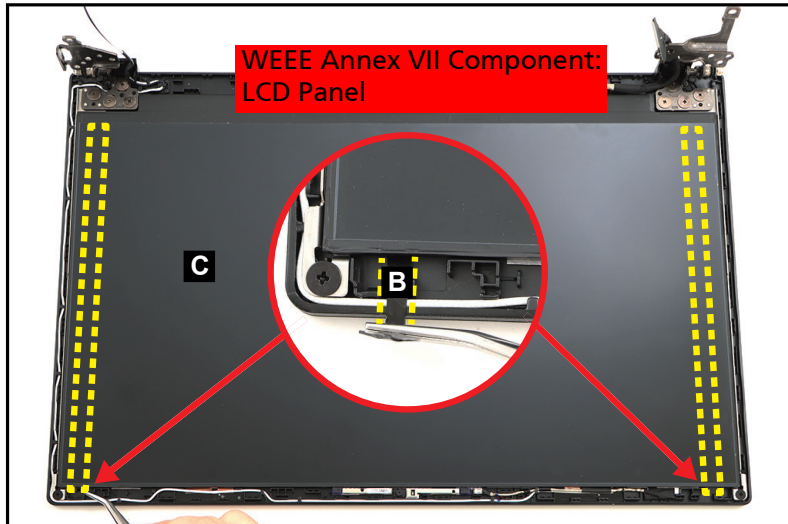

Figure 1-50. LCD Panel Removal
2. Pry slightly to access the double-sided mounting tape (B) underneath the LCD panel (C). Then pull to detach the double-sided mounting tape. Repeat the same procedure to remove the double-sided mounting tape on another side of the LCD panel (Figure 1-50).